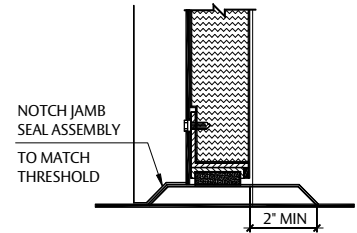

FIGURE 7
**Thresholds should never be notched around the jamb seal assembly. (Fig. 7)**